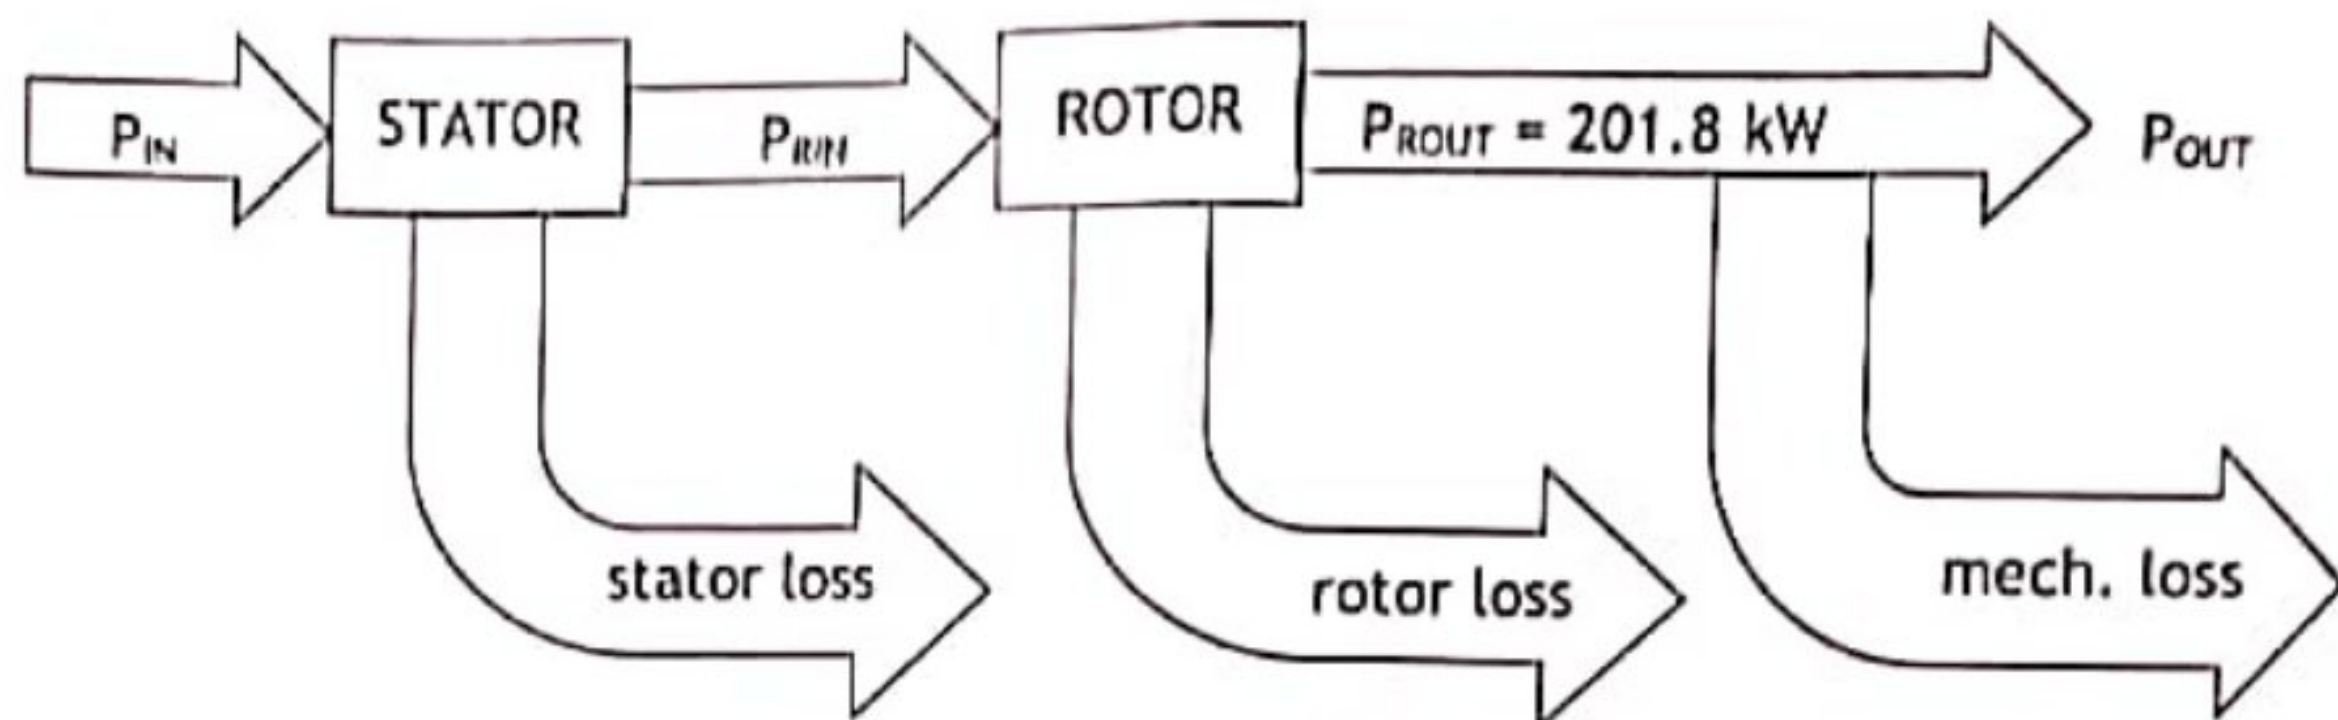

Fig Q6
6. Fig Q6 shows a power flow diagram for a three-phase, 2 pole, 6.6 kV, 60 Hz, Induction motor. At full-load the motor efficiency and power factor are 94% and 0.88 lag respectively, the output power is 200 kW and slip is 1.2%.